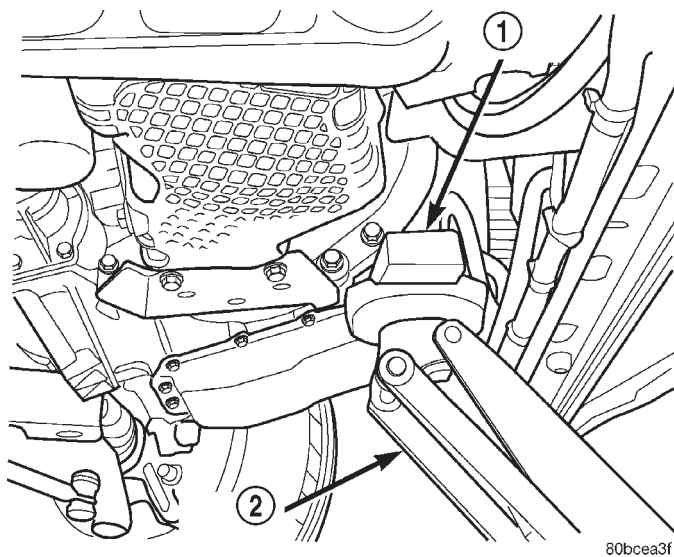

Fig. 11 Floor Jack Positioning
- (1) Loosen the upper and lower torque strut attaching bolt at the suspension crossmember and shock tower bracket.
- (2) The engine position may now be adjusted by positioning a suitable floor jack on the forward edge of the transmission bell housing (Fig. 11).
NOTE: The floor jack must be positioned as shown in (Fig. 11) to prevent minimal upward lifting of the engine.